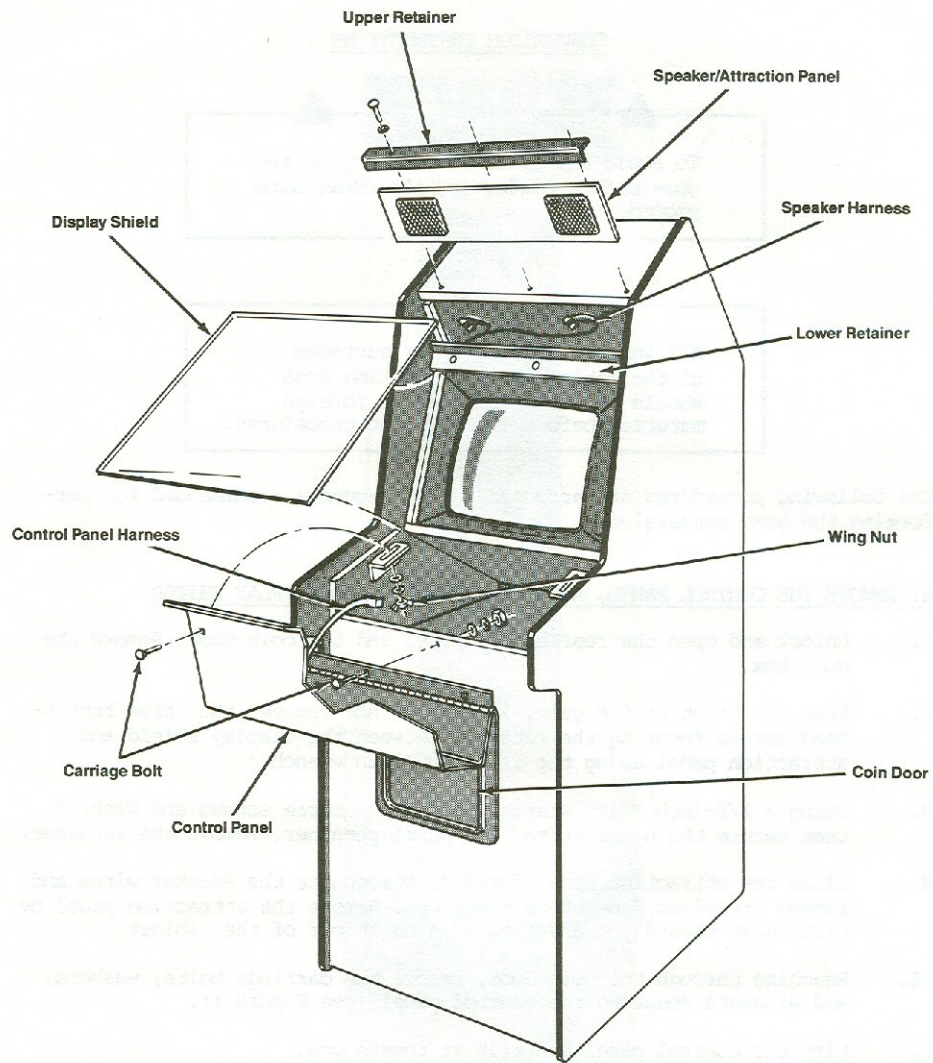

Figure 1 Removing the Control Panel, Attraction Panel, and Display Shield
5. Reaching through the coin door, remove the carriage bolts, washers, and wingnuts securing the control panel (see Figure 1).
2. Using a 1/8-inch allen wrench, mount the attraction panel to the cabinet with the upper retainer, three screws, and washers (see Figure 1).